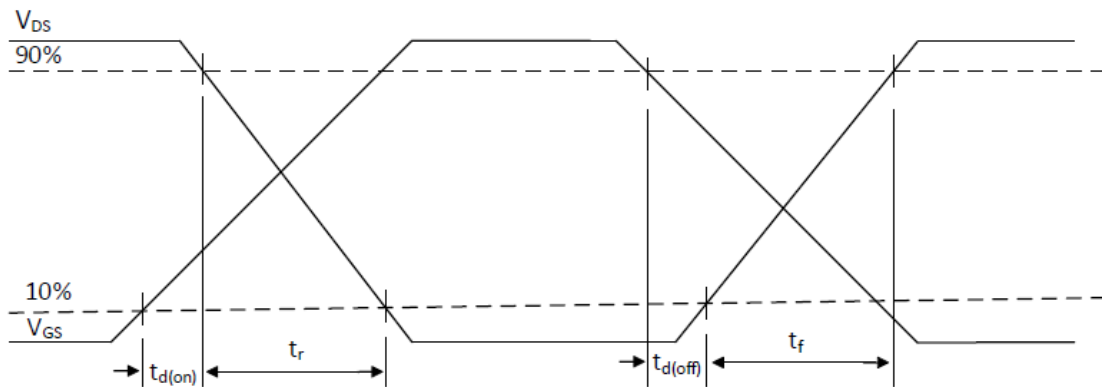

Figure 17: switching time waveforms
(6) L_P = parasitic inductance
(7) See Figure 17 for switching loss test circuit